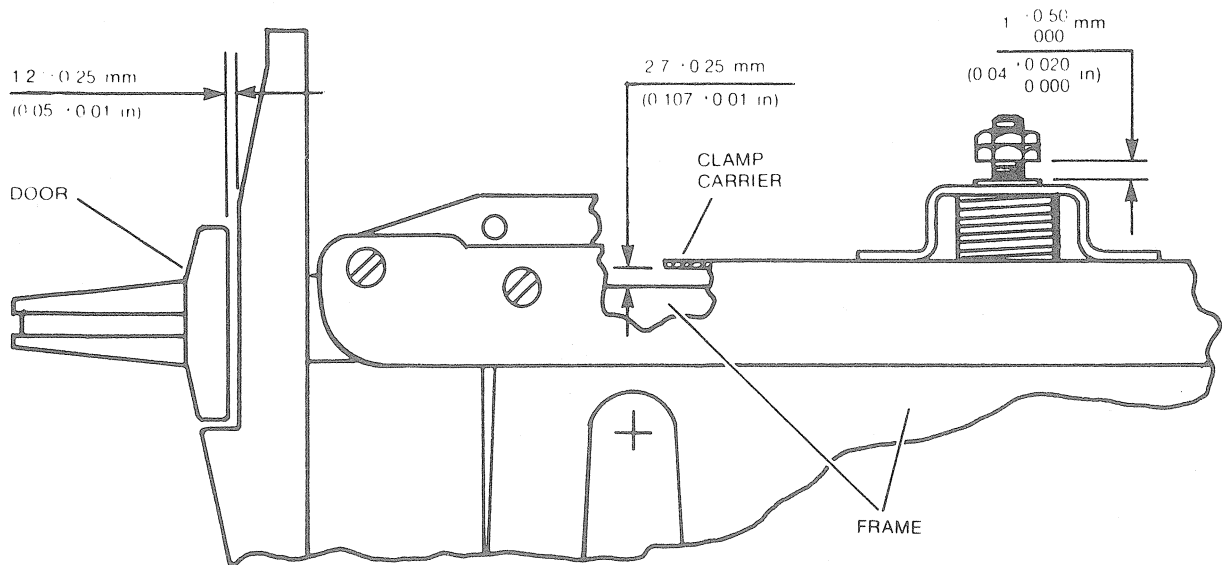

FIGURE 4-16. DOOR AND DISC CLAMP POSITIONS
1. With the door latch seated on the Bezel latch surface, the door shall be fastened to the clamp carrier per the specifications shown in Figure 4-16.
2. With the door latched closed, the disc clamp nut and lock nut shall be adjusted and locked per the specifications shown in Figure 4-16.